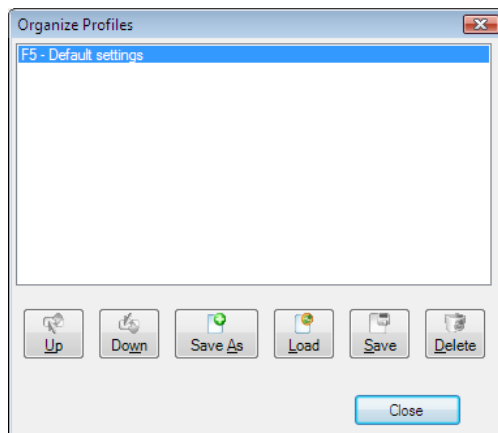

Figure 2-21. Organize Profiles Dialog Box
- 3 From the VRS Interactive Viewer, select Profile | Organize. The Organize Profiles dialog box will display (Figure 2-21).